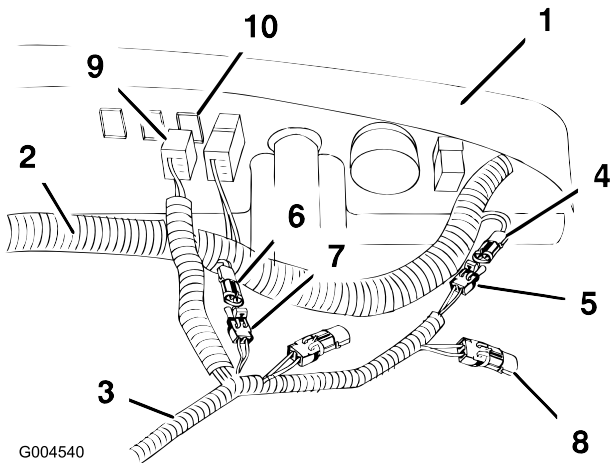

Figure 8
- Locate the optional 48v output connector as labeled on the main harness and remove the cap. Connect the accessory harness to the 48v output connector as shown in Figure 8.
- Place the switch connector into position behind the plug in the dash as shown in Figure 8.